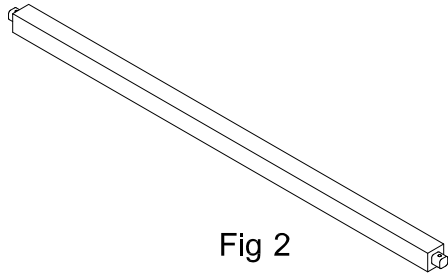

Fig 2
2. Prepare a Leg support (Fig. 2)